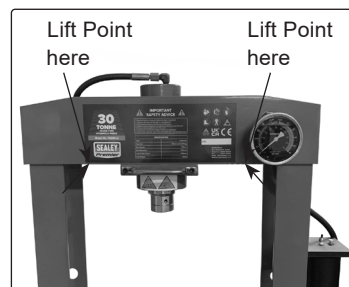

fig.3
□ **WARNING!** When installing, lifting or moving the press, attach lifting means to areas as shown in fig.3.